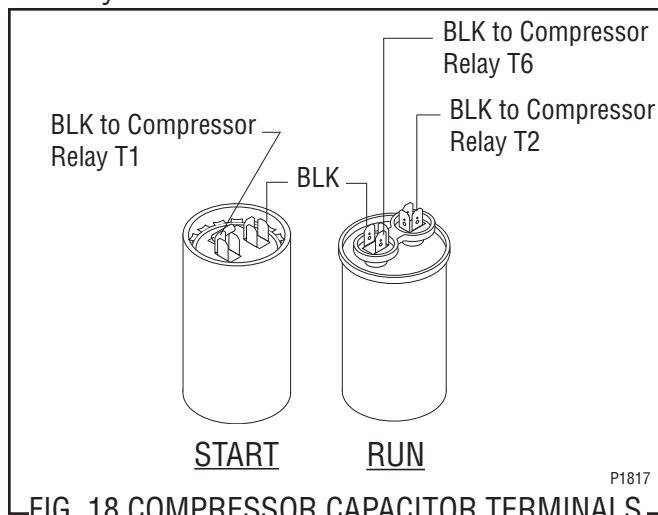

FIG. 18 COMPRESSOR CAPACITOR TERMINALS
4. Refer to Fig. 18 and reconnect the wires to the start capacitor.
5. Refer to Fig. 18 and reconnect the wires to the relay.